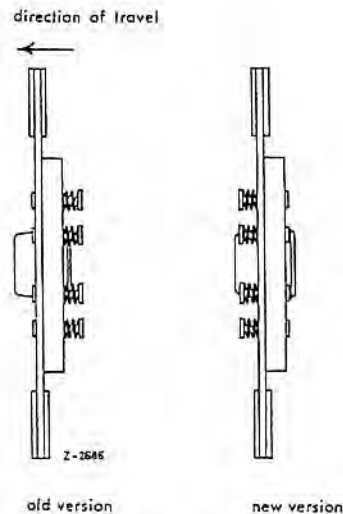

Fig. 25-1/4
On the new driven plate Part No. 001 250 11 03 for Models 230, 230 S, 230 SL, 250 S, and 250 SE the friction damping springs are also arranged **on the flywheel side** (Fig. 25-1/4). To ensure correct installation, the new driven plate is stamped "Kupplungsseite" on the side facing the clutch (see Page 25-0/1b).
10. Fit the clutch pressure plate and screw it down (Fig. 25-1/7).